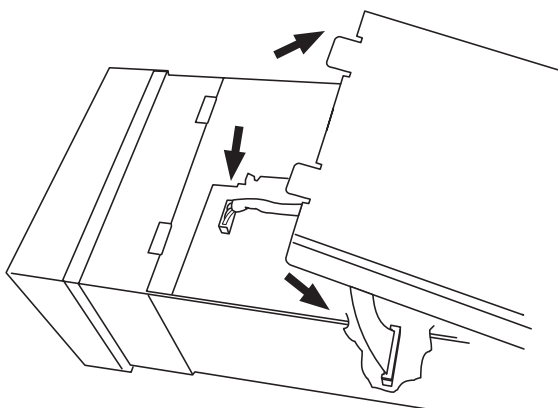

Figure B3.2c Disconnect looms; Remove cover plate
4. Carefully lift the front of the recorder case cover, and disconnect the two looms connecting it to the internal circuit board (figure B3.2c)